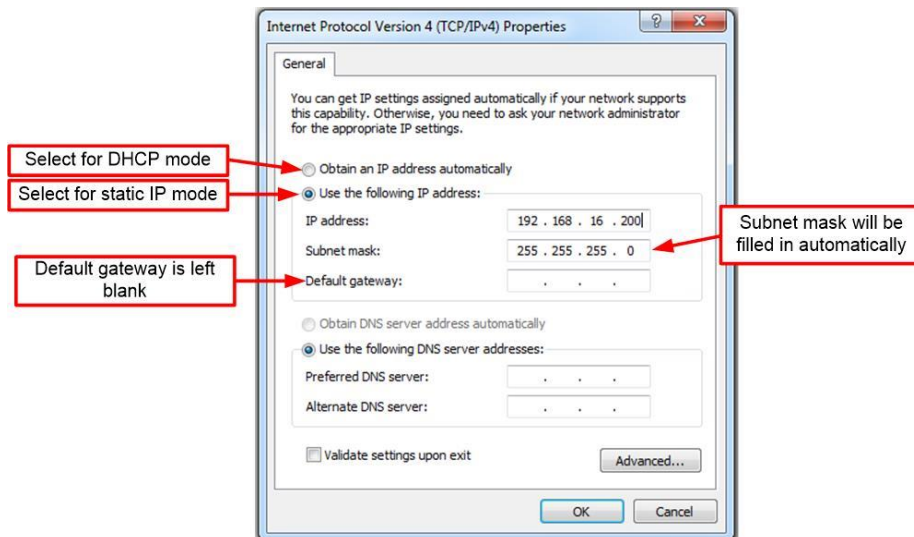

Figure 3-7 Windows Network Connections IPv4 properties page –Static IP
Step 7: To set the unit to a static IP address, select the "Use the following IP address:" option. Then enter the desired IP address in the designated field. A suggestion is to use the IP address 192.168.16.200 as shown below. Once the IP address is filled, the Subnet mask field will automatically populate. See Figure 3-7.